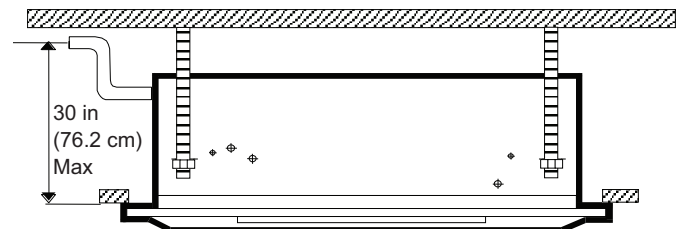

Fig. 42 — Condensate Piping
3. Condensate piping should slope downwards in the direction of water flow with a minimum gradient of 1 inch in 100 inches (2.54 cm in 254 cm). There must not be any uphill gradients other than in the first 30 in. (76.2 cm) of piping from the unit. Once the piping begins the downward gradient, the piping must continue to be in a downward gradient. See Fig. 42.